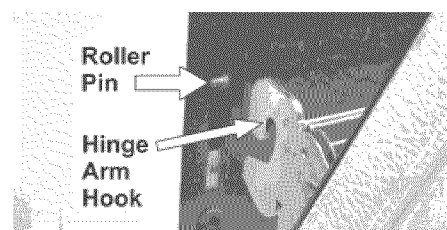

Fig. 4
5. With the oven door in the broil stop position, lift the oven door hinge arms over the roller pins located on each side of the oven frame (Fig. 4).
2. Holding the oven door at the same angle as the removal position, seat the hook of the hinge arm over the roller pins located on each side of the oven door frame (Fig. 4). The hook of the hinge arms must be fully seated onto the roller pins.